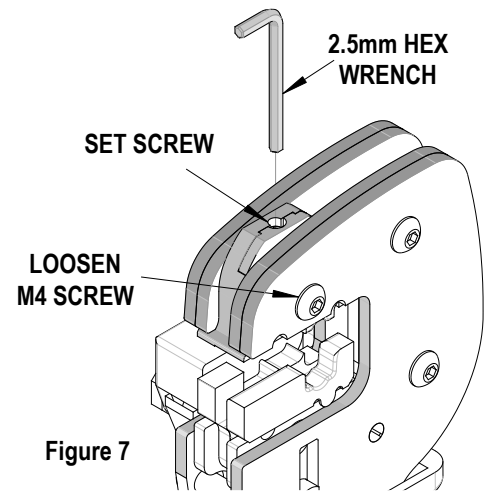

Figure 7
6. If the insulation part of the crimp needs to be adjusted, first loosen the M4 screw on the upper tool jaw. Then insert a 2.5mm hex wrench (supplied) into the set screw at the top of the upper die. See Figure 7. A clockwise (CW) rotation decreases insulation crimp while a counter-clockwise (CCW) rotation increases insulation crimp. After adjusting, retighten the M4 screw.